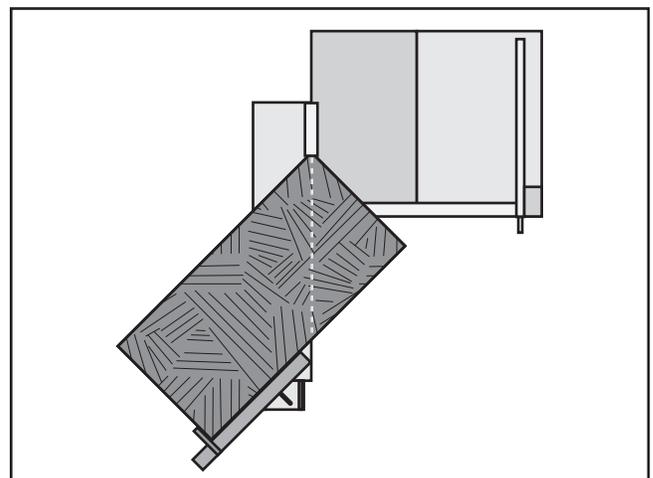

Figure 58. Fence set-up for 45°L cuts.
4. Load the workpiece onto the table saw (similar to **Figure 58**) and perform the cutting operation in the same manner as a crosscut.